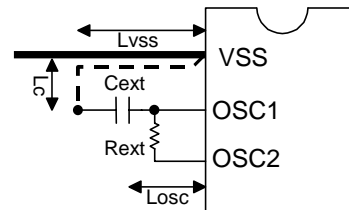

Figure 2-2. Sample Oscillation Circuit 2 (Two-pin RC Oscillator)
- When two-pin RC oscillator option is selected: (Figure 2-2)